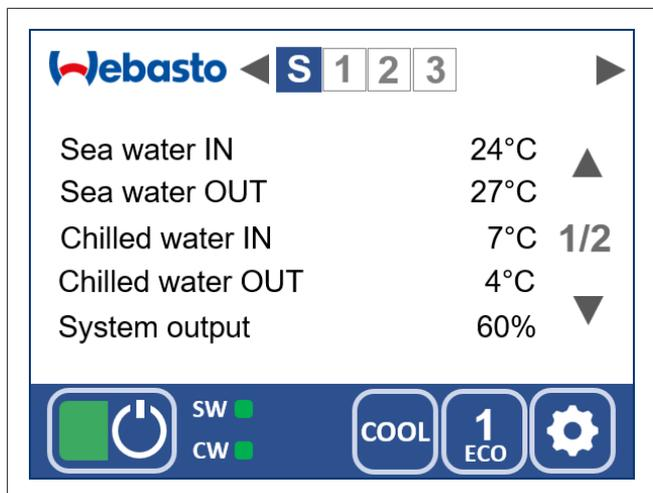

Fig. 16 System display page 1
Use the arrow keys in the upper status line (Fig. 16, item 2) to change the display.